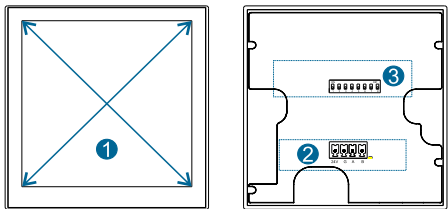

Figure 6. Product Information
Product Information: See Figure 6
4. Setting address: The factory address is 01, address setting is 01-63 (decimal), using a 6-bit dip dial, binary Dip mode, setting mode (see Figure 6), note: the back cover needs to be removed when dialing, see Figure 8.